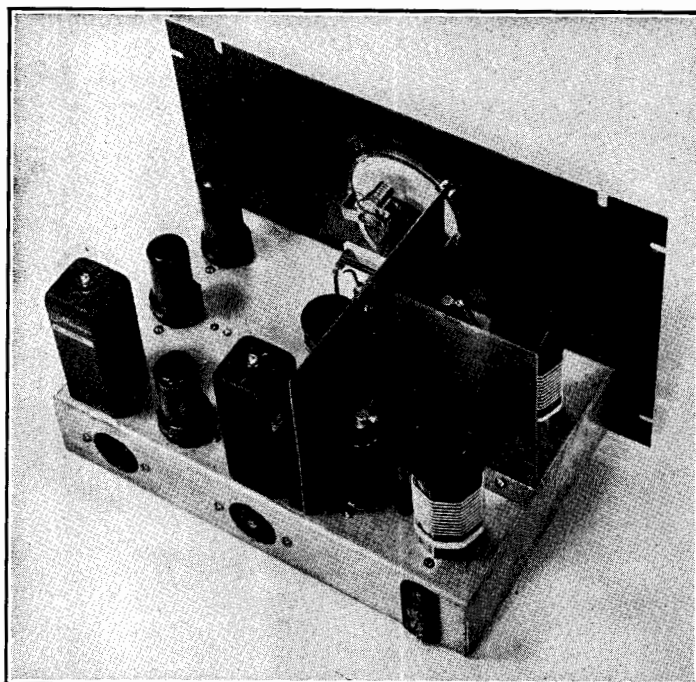

Figure 9.
**Mechanical Layout.** The r.f. stage is located on the left front corner of the 7x11x2 inch chassis. The mixer stage is placed at the rear left corner of the chassis, with the shield partition visible in figure 9 separating it from the r.f. stage. Placing the r.f. and mixer coils toward the edge of the chassis removes them from the proximity of the front-to-back shield, which otherwise might lower the gain obtained in the tuned circuits.
and prevents oscillation. If a metal cabinet is not used, more elaborate shielding partitions than those illustrated in figure 9 will be required.